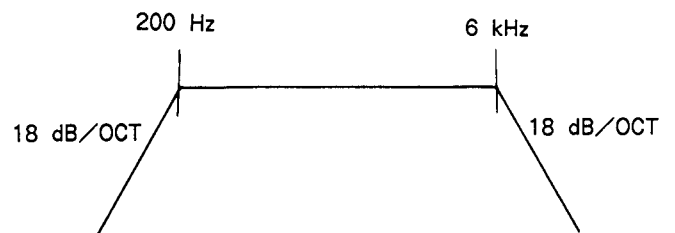

Fig. 8-51. Distortion measuring filter
- \* This is the value when the distortion measurement filter (Fig. 8-51) is used. When the filter is not used, the value should be less than 1.0%.